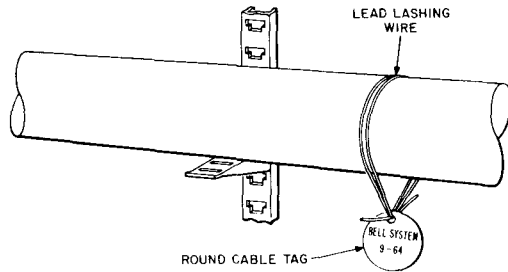
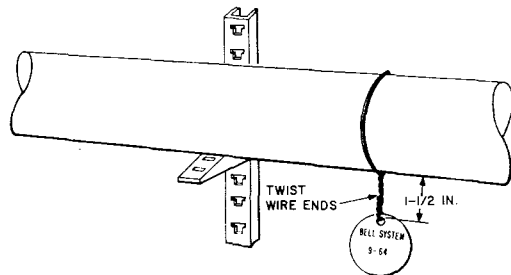

Fig. 5—Cable Tag Placed with Two Loose Wraps of Lead Lashing Wire
Fig. 6—Cable Tag Lashed
5.01 The tags should be fastened to the sheath using a strand of lead lashing wire threaded twice through the hole in the tag (Fig. 5) and twisting the ends together below the cable, as shown in Fig. 6.